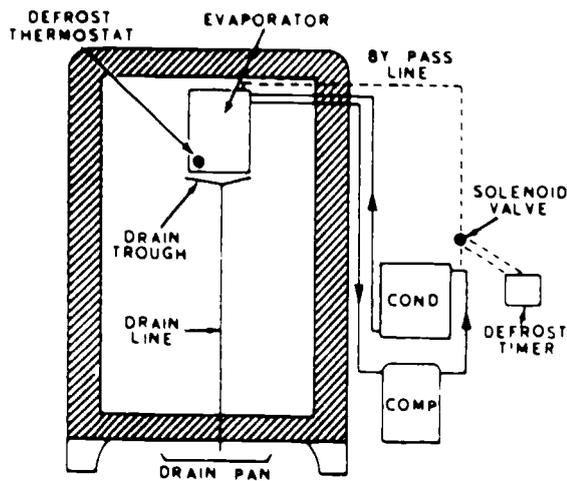

Figure 8. Defrost System
**HOT GAS DEFROST SYSTEM.** Figure 8 illustrates a typical hot gas defrost system. The defrost timer opens the solenoid valve allowing the hot condenser gas to flow through the bypass (dashed line) into the evaporator. The hot gas gives up its heat and melts down the drain line to the drain pan. The heat from the condenser evaporates the water. The drain trough heater keeps the water from freezing before it flows out the drain line.